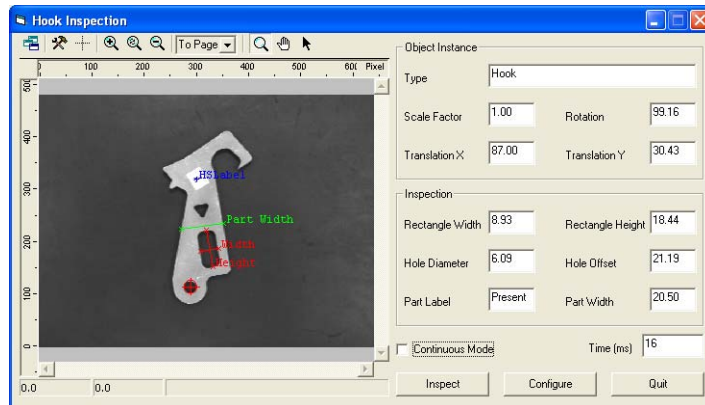

Figure 8 Hook Inspection Interface
- Run the application then, in the Hook Inspection interface, click the **Inspect** button to launch a first execution. See Figure 8.